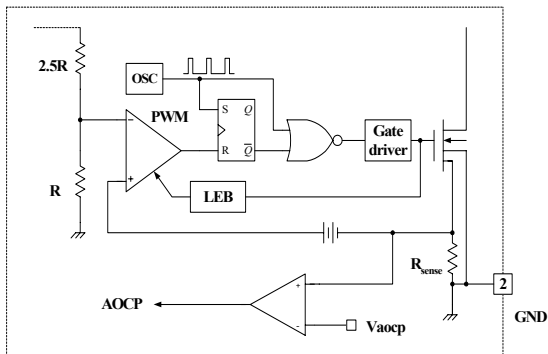

Figure 9. AOCP block
**3.2 Abnormal Over Current Protection (AOCP) :** When the secondary rectifier diodes or the transformer pins are shorted, a steep current with extremely high di/dt can flow through the SenseFET during the LEB time. Even though the FS7M-series has OLP (Over Load Protection), it is not enough to protect the FPS in that abnormal case, since sever current stress will be imposed on the SenseFET until OLP triggers. The FS7M-series has an internal AOCP (Abnormal Over Current Protection) circuit as shown in Figure 9. When the gate turn-on signal is applied to the power Sense FET, the AOCP block is enabled and monitors the current through the sensing resistor. The voltage across the resistor is then